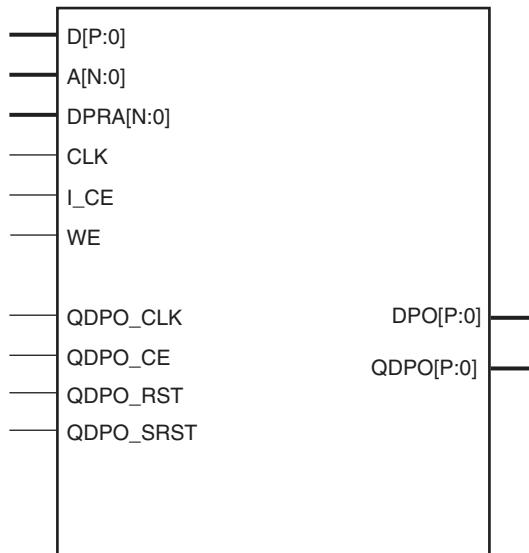
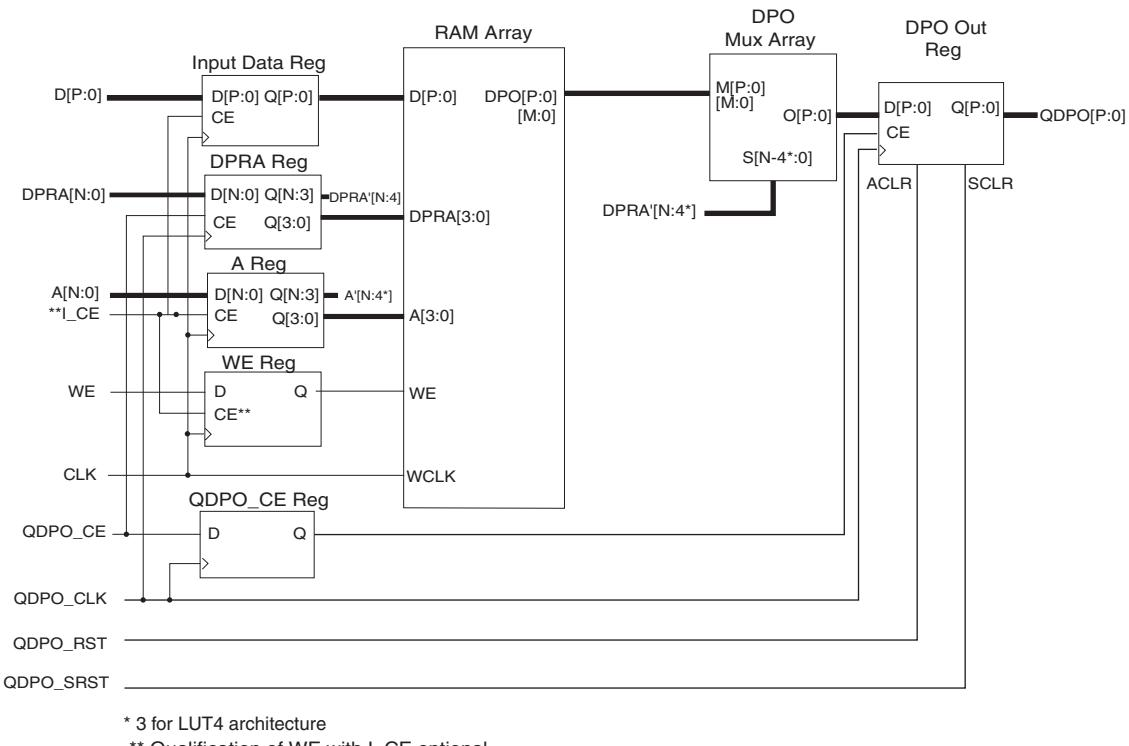

Figure 9: Simple Dual-Port RAM Schematic Symbol
Figure 10: Simple Dual-Port RAM Module Schematic
Writes to the distributed simple dual-port RAM are synchronous to the clock (CLK). However, read operations from the distributed simple dual-port RAM can be asynchronous or synchronous with respect to either of the two clocks (CLK or QDPO_CLK). Figure 9 illustrates the simple dual-port RAM schematic symbol, showing the relevant ports. Figure 10 shows the internal implementation of the distributed simple dual-port RAM. If a pipeline register is added to a registered core (not illustrated), the additional register is re-timed into the DPO MUX array.
- **Simple Dual-Port RAM.** Figure 10 is a schematic of the structure of the simple dual-port RAM modules. The address and data registers are optional (controlled by the setting of the Input Options parameter). The simple dual-port read address register is optional (controlled by the setting of the Simple Dual-Port Address parameter). Output registers for both output ports are also optional (controlled by the setting of the Output Options parameter).